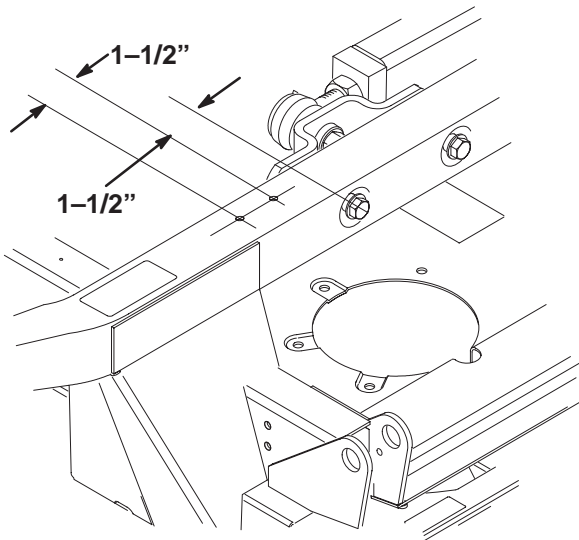

Figure 5
16. Using the dimensions shown in figure 5, locate, mark and drill (2) 11/32 inch holes thru both the walls of the deck frame tube. The new top holes should align with the current hinge mounting holes in the bottom of the tube.